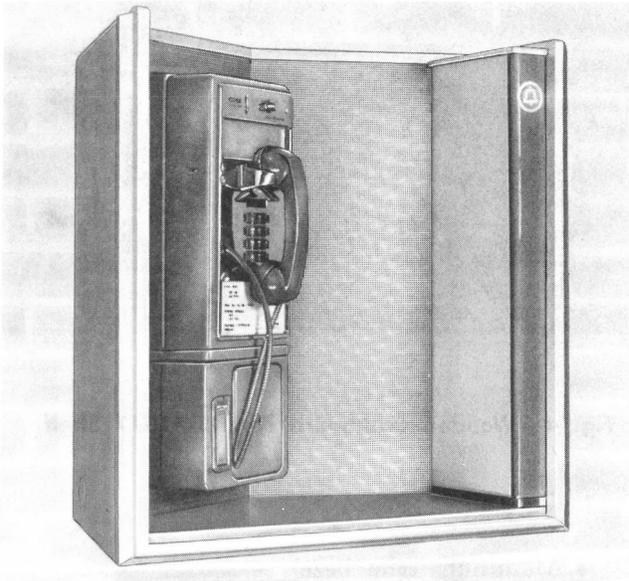

Fig. 1—KS-21571 Coin Telephone Shelf With 1-Type Set and Fluorescent Lamp
1.01 The KS-21571 coin telephone shelf (Fig. 1 through 3) is a wedge-shaped wall mount intended for indoor use.